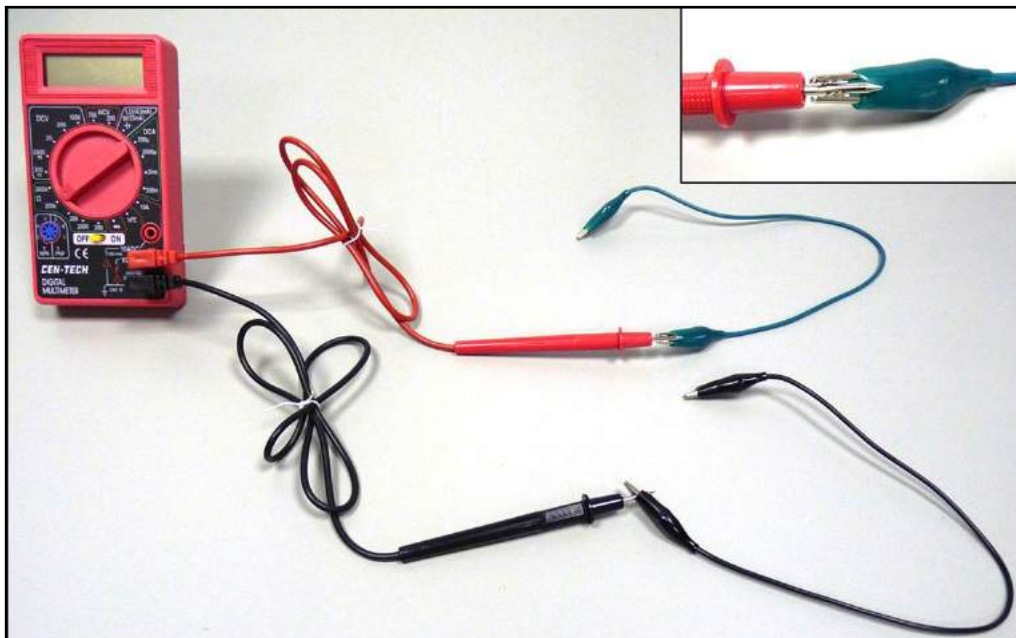

Figure 7. Alligator clips attached to red and black cables.
4. Attach an alligator clip to the end of the red cable and also attach an alligator clip to the end of the black cable. See Figure 7.